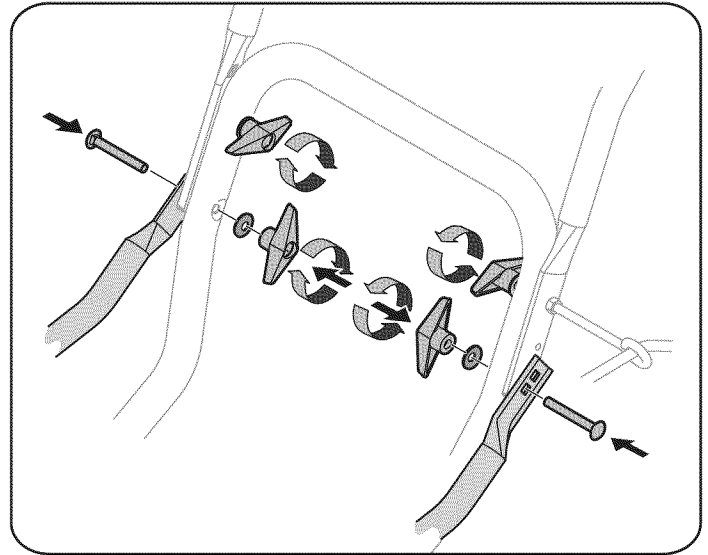

Figure 2
- a. Secure the support bracket, upper handle and lower handle with the two wing knobs and carriage bolts removed earlier. See Fig. 2.
- b. Tighten the two wing knobs already installed in the upper holes to firmly secure the upper handle and support tubes. See Fig. 2.